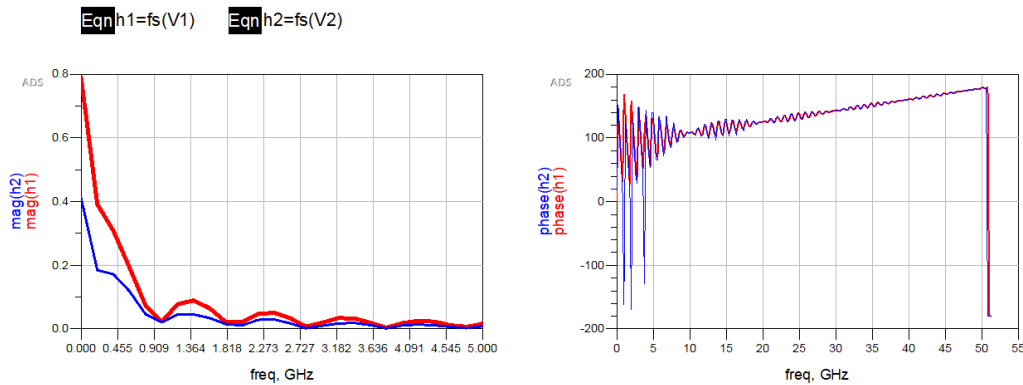

Figure 6: *Transient2* Data Display of Time-to-Frequency Transform.
7. In the same data display window, insert equations and graphs as shown in Figure 6. fs is an ADS built-in function that performs time-to-frequency transform. For a step function with certain delay, what is its expected frequency domain waveform? Explain if the plots of $h1$ meets your expectation.